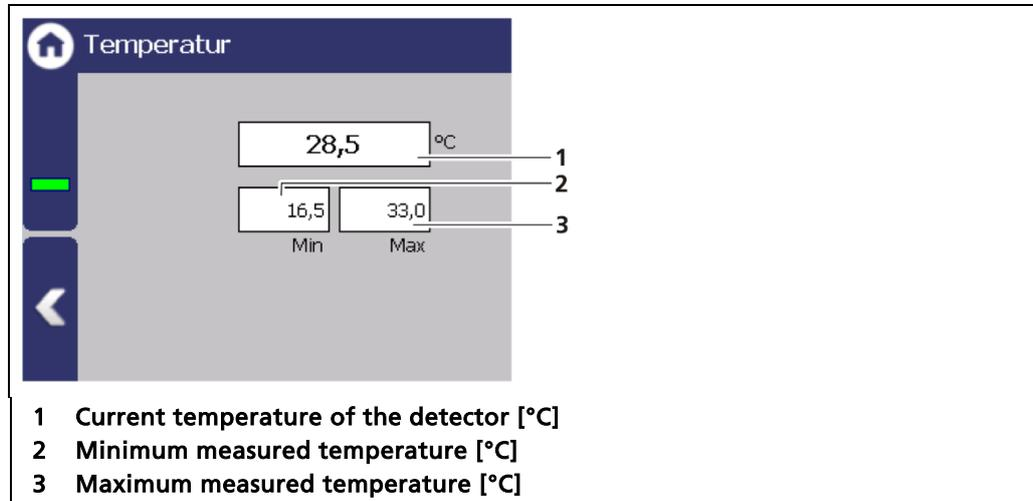

Fig. 68 Temperature display of the detector
The current temperature (Fig. 68, item 1) and extreme values (Fig. 68, item 2, item 3) of the detector is displayed in the submenu "Temperature".